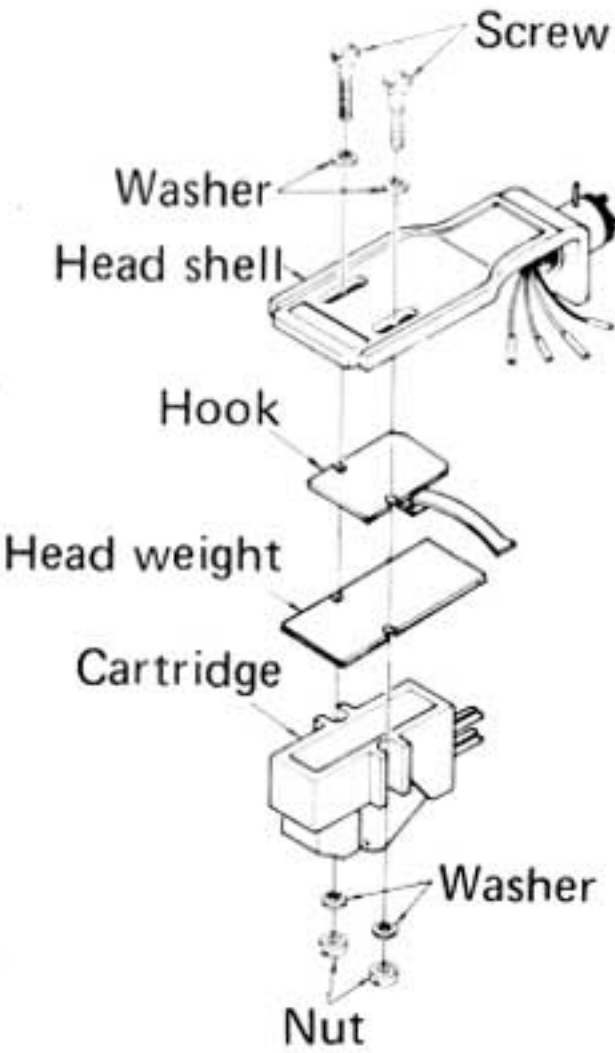

Fig. 7
- 5. If the weight of the cartridge being used is lighter it may be necessary to use the Head Weight to the head shell to balance the tone arm. (Fig. 7).